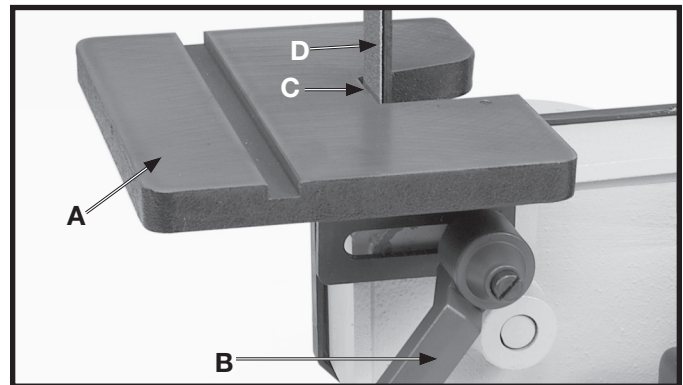

Fig. 25
The belt sander table (A) Fig. 25, can be tilted or moved in or out by loosening lock handle (B), moving the table to the desired position, and tightening lock handle (B). **NOTE:** The lock handle (B) is spring-loaded and can be repositioned by pulling out on the handle and repositioning it on the serrated locking stud located directly under the handle.
⚠ WARNING To avoid trapping the work or fingers between the table and sanding belt, the table edge (C) fig. 25, should be positioned a maximum of 1/16 inch from sanding belt (D) as shown.